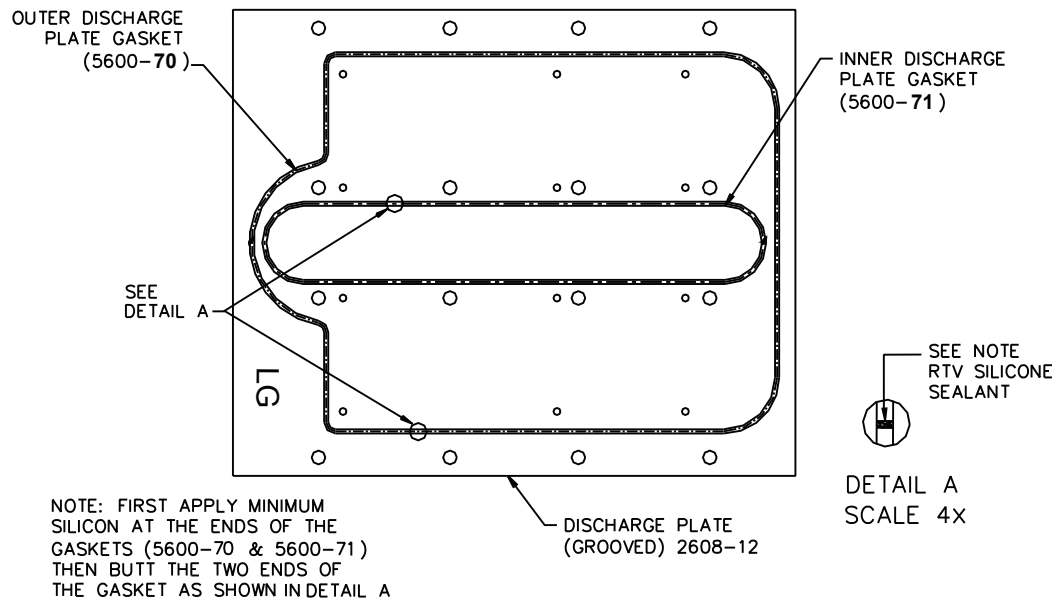

Figure 3. Generator Casting
- Install the gaskets in the discharge plate grooves as shown in *Figure 3*.